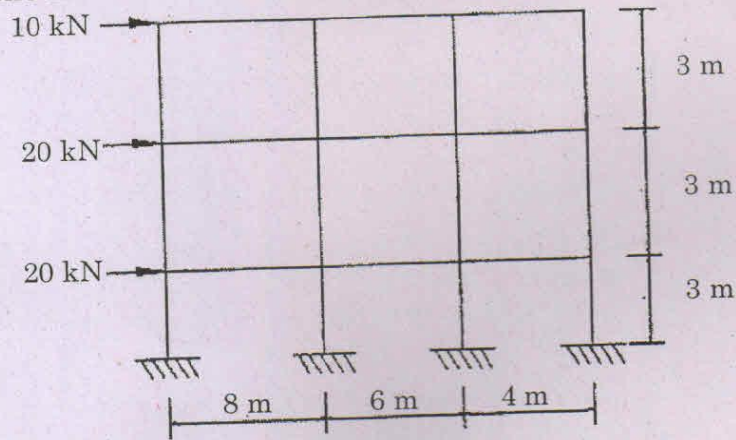

Figure 5
8. Analyse the frame shown in figure 5 and calculate the values of moment and force in all the members. Assume any necessary data required. (15)